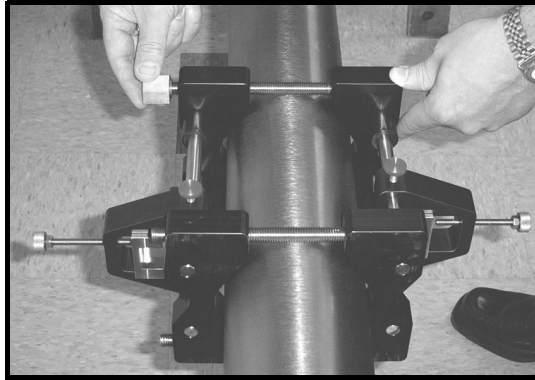

Figure 1-8: Installing Nuts onto the Fixture
3. Install the four nuts onto the threaded rods with the convex side of the nut facing the fixture. Hand tighten the nuts on each V block evenly, as shown in Figure 1-8 on the next page. Do not use a cross tightening pattern on the four installation nuts.